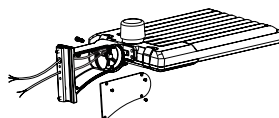

Fig 5
Step 2: Run the wire through the bracket. (Fig.5)